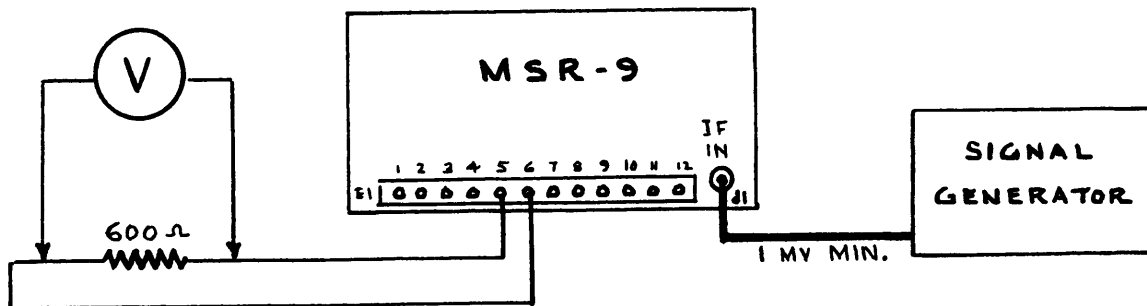

Figure 2
5. Connect r-f signal generator to IF INPUT connector J1 of MSR-9. Set signal generator for an output of 1 kc above or below the 455 kc IF (454 or 456 kc) to produce an audio tone; output level same as measured at output of receiver (1 mv or more). Set SIDEBAND selector switch to proper LSB or USB position. See set-up shown in figure 2.